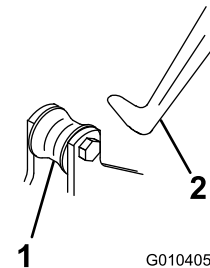

Figure 4
2. Slide the tri-roller under the traction unit pull frame while hooking the lift roller onto the lift arm (Figure 4).